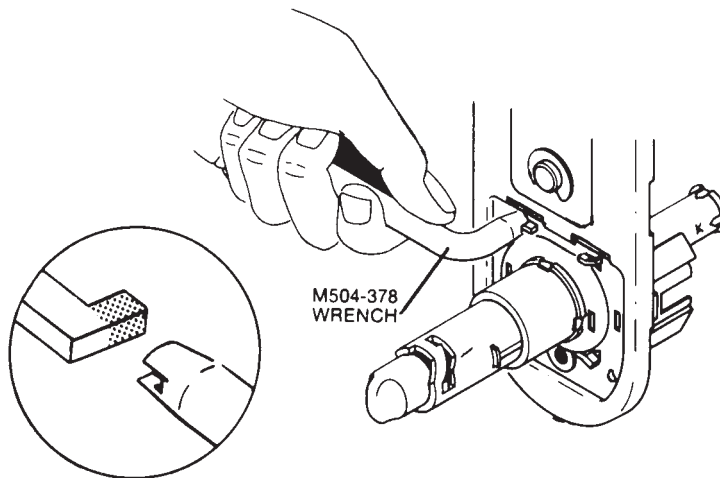

Figure 13.100 Right-hand conversion, Step 8.
8. Bend the tabs to secure the mounting plate (Fig. 13.100).